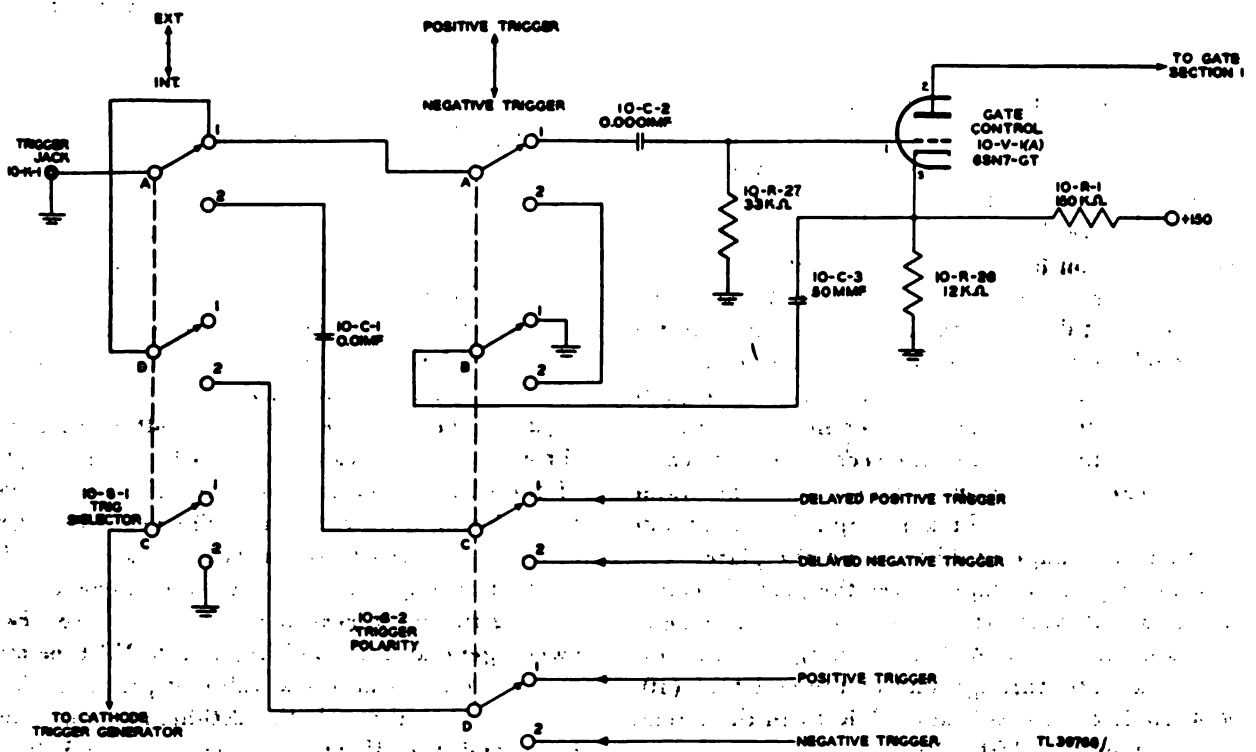

Figure 137. Trigger switching and gate control, simplified schematic diagram.
(3) *Gate control* (fig. 137). The 6SN7 tube (10-V-1(A)) is used for coupling the trigger pulse into the gate generator. This tube is biased to just below cut-off by a voltage divider composed of a 12,000-ohm resistor (10-R-28) in the cathode and a 150,000-ohm resistor (10-R-1) connected to +150 volts. The input signal can be either positive or negative in polarity. A positive signal applied to the grid causes a negative pulse to appear at the plate. A negative pulse coupled into the cathode drives it negative which also produces a negative pulse on the plate.
(12) *Trigger polarity switch* (figs. 137 and 143).
(13) *Trigger selector switch* (fig. 137). The INT position allows use of the internally generated trigger to start the internal sweep, at the same time providing a trigger at TRIGGER jack 10-K-1 to start the operation of an external circuit under test. In the EXT position, the cathode circuit of the trigger generator is opened so that it does not operate. The sweep is then triggered by an external voltage which must be fed into the TRIGGER jack from the external circuit under test.